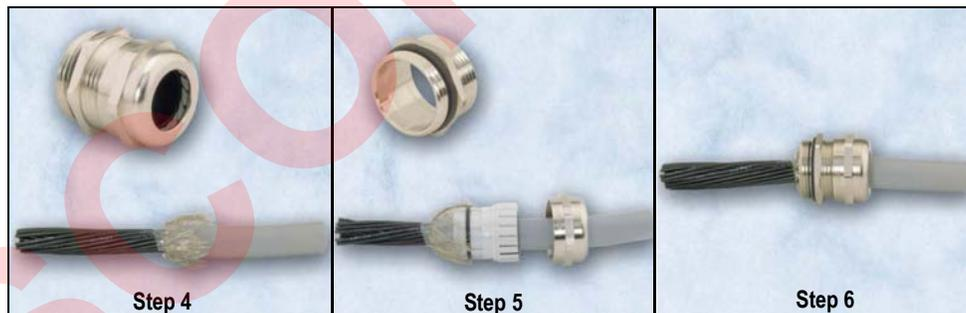

Figure 2-7. Serial Cord Grip Assembly
4. Strip serial cable jacket back to cord grip (metal construction) location to expose the braided shield. Trim the braid, shield wire or foil back to within 1" (1.5 cm) of stripped cable jacket (Figure 2-7).